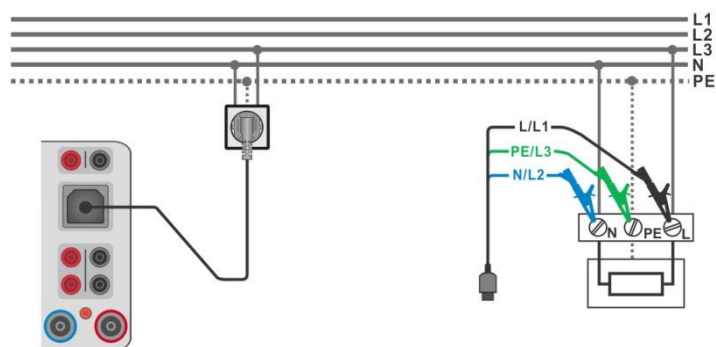

Figure 6.109: Connection of Plug test cable or 3-wire test leads
- ▶ Connect 3-wire test lead or Plug test cable to the object under test, see **Figure 6.109**.